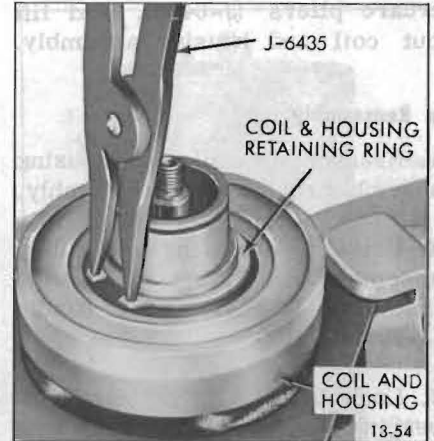

Figure 13-54—Removing and Installing Coil and Housing Retainer Ring
6. Mark position of coil and housing assembly in relationship to shell of compressor, withdraw coil and housing retainer ring (see Figure 13-54) using No. 26